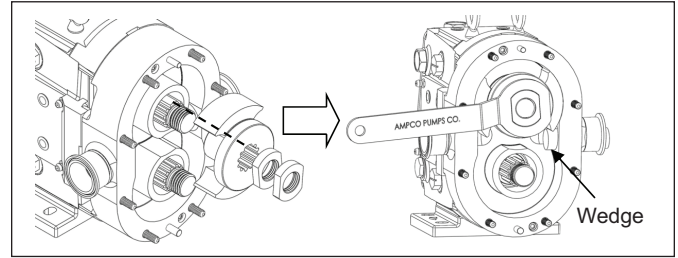

Figure 62. Installing Rotors and Tightening Jam Nuts
2. Install rotor onto either shaft by aligning the large spline tooth on the shaft with the large spline groove on the rotor. Secure the rotor in the body with the jam nuts. Place one nut on at a time, tightening them down using the supplied wrench and a non-metallic wedge to hold the rotor in place (Figure 62). See Table 8 for required torque values. Repeat with the second rotor.